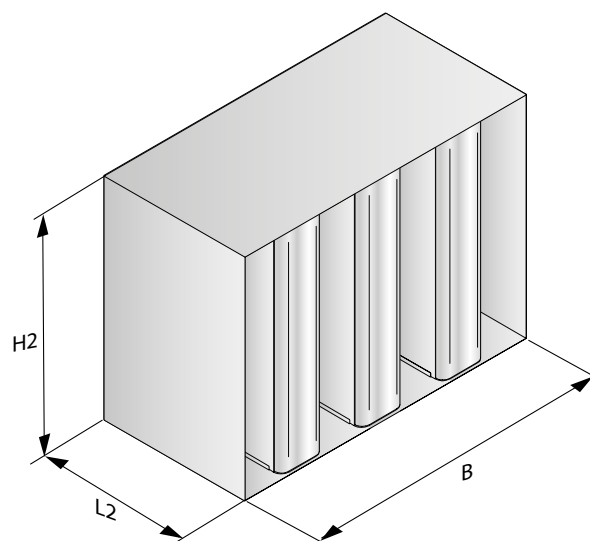

Figure 7. Dimensional drawing, CANTO splitter set
* The module size must be evenly divisible by the duct width (B), see Figure 7.